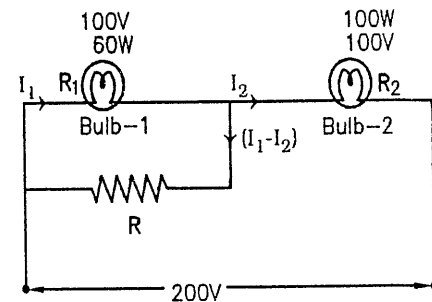

FIG. 1.25
- Let R ohm be the resistance of the resistor connected in parallel with bulb 1 as shown in Fig. 1.25 to limit the current I_1 to its rated value.